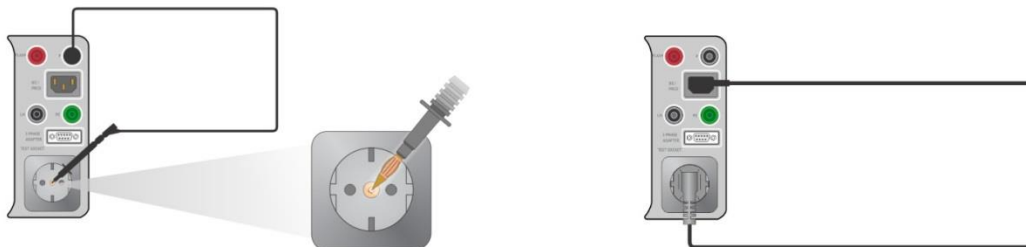

Figure 6.21: Shorted test lead / IEC test cable
- › Connect test lead to the instrument between P/S terminal and PE terminal on test socket or connect IEC test cable between IEC connector and test socket, depending on settings, see *Figure 6.21*.